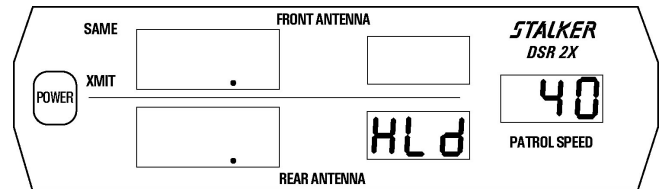
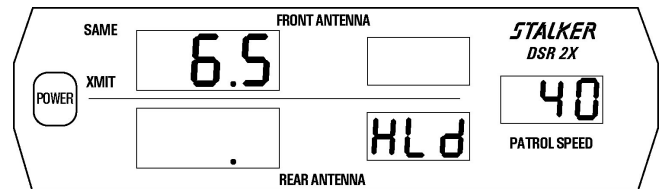

Fig. 58
Fig. 59
Quickly hold the tuning fork approximately two (2) inches in front of the active antenna, with the narrow edge of the fork facing the antenna. The patrol window should indicate  $40 \pm 1$  mph (64 kph) (Fig. 58). Then move the lower speed fork in front of the antenna with the narrow edge facing the antenna. The target window should register  $65 \text{ mph} \pm 2 \text{ mph}$  (104kph) (Fig. 59), which is the sum of speeds of the two forks.